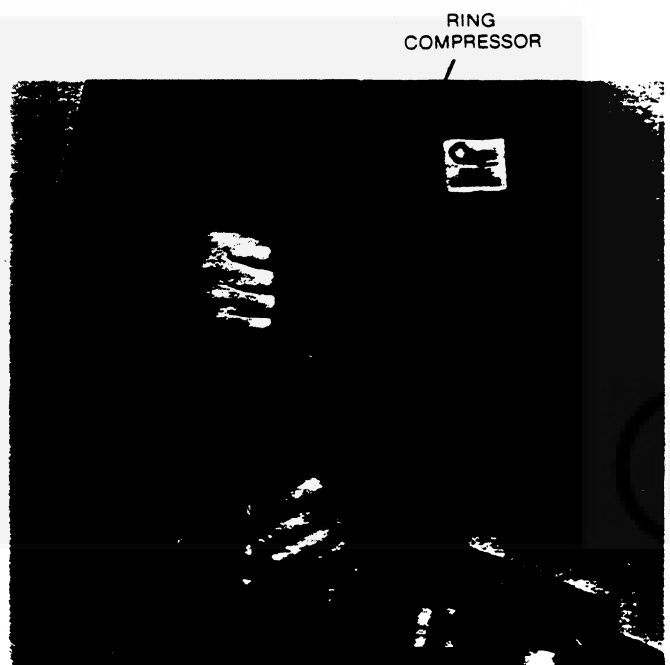

FIGURE 33. PISTON INSTALLATION
3. Position a bearing shell in connecting rod, with tang of bearing shell in the recess of connecting rod. Lubricate bearing shell and crankshaft journal. Protect crankshaft rod journals by placing a piece of rubber tubing over rod bolts during installation (Figure 33).
4. Compress the rings with a ring compressor and install piston assembly in cylinder bore by tapping on top of piston with a wooden hammer handle (Figure 33).